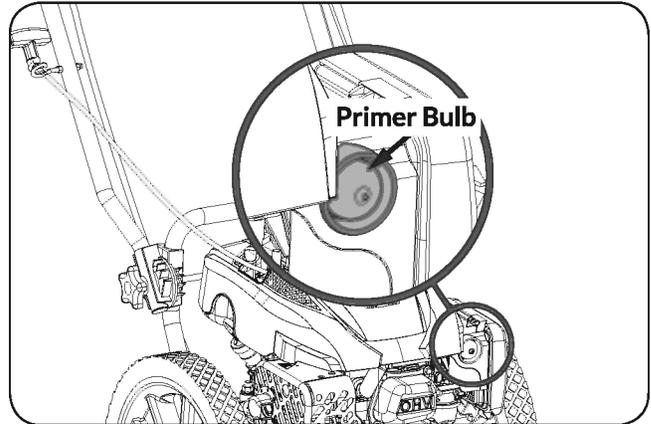

Figure 9
2. Starting primer bulb operation is important operation of the starting engine. For cold starting, slightly press the primer bulb one to three times in succession and quickly pull the recoil cable grip. For hot starting, directly pull the starter cable grip. (See Figure 9)